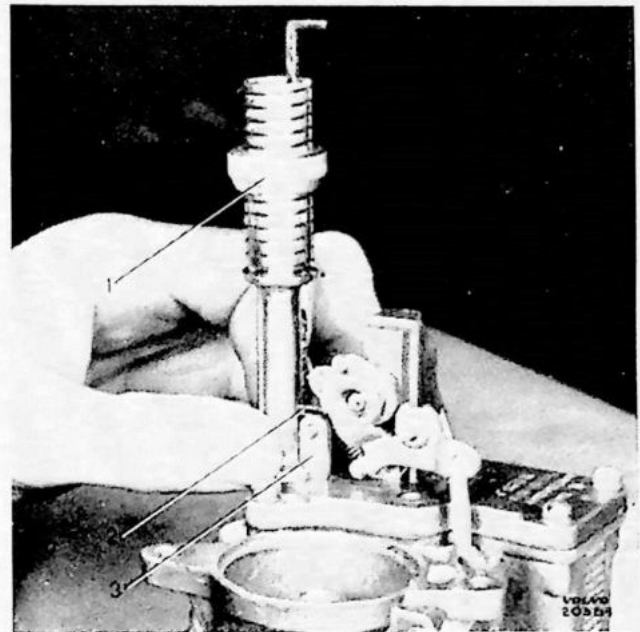

Fig. 90.
The flow through accelerator pump jet determines the acceleration properties of the engine. Check flow by measuring plunger stroke with gauge T 109—117 S which is placed on top bowl cover; throttle should be completely closed. Turn nut (1) on the gauge to make finger (2) just touch the upper end of plunger rod (3, Fig. 90). Note scale reading.